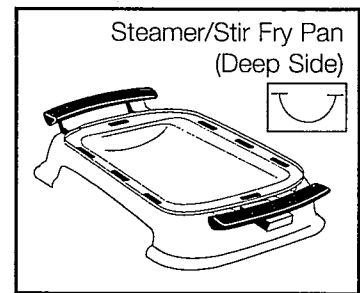
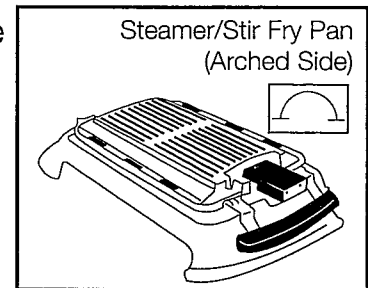

Figure 1
Figure 2
There are three interchangeable cooking surfaces: The Slotted Grill Pan, the Steamer/Stir Fry Pan, and the Wire Rack. The Slotted Grill Pan and Steamer/Stir Fry Pan are unique in that they can be used so the Pan goes down into base—"deep" side—see Figures 1 and 3; or, so the Pan is turned over on the Drip Tray/Base and the curved side points up—"arched" side—see Figures 2 and 4. As an added advantage, the "arched" side method (Figures 2 and 4) allows fat and grease to drip down through the side holes.
- The Steamer/Stir Fry Pan is a wok/trencher/roaster all in one! Start by sautéing, stir frying, or dry frying all of your favorite vegetables, meats, or grains! The high heat and unique shape means crisp, perfectly stir-fried meals! Or, you can simply drop in the Wire Rack and you've created the perfect vegetable or fish steamer. Use the Lid to keep all those juices locked inside! You can also flip over Steamer/Stir Fry Pan to the "arched" side (see Figure 2) to cook sausage, hot dogs, etc. and the perfect set of baby back ribs!
NOTE: If you wish to use either the Slotted Grill Pan or the Steamer/Stir Fry Pan in an "arched" side manner, turn Pan over and place Handles (upside down) into cut-outs in sides of Base. See "Introduction" and Figures 2 and 4.